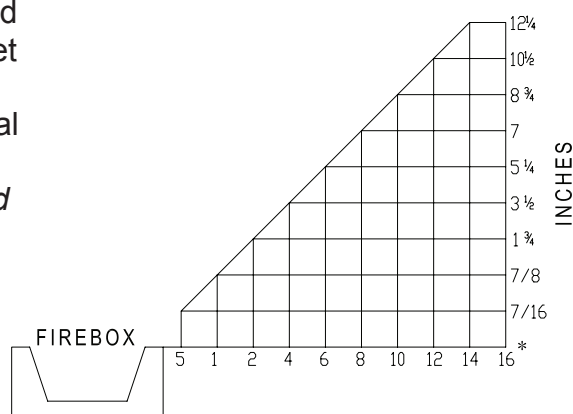

Figure 3 - Minimum Clearance for Combustible to Wall
- A. Clearance from the side of the fireplace opening to any combustible material and wall should follow diagram in Figure 3.